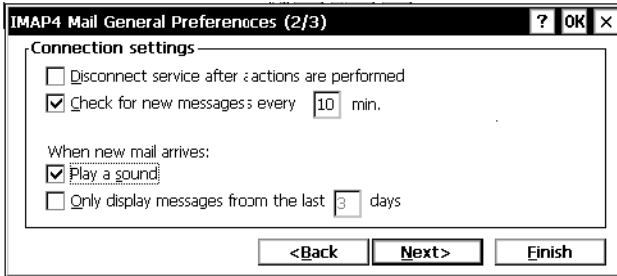

Figure 4-9. General Preferences Dialog Box
- Click **Next**. The **IMAP4 Mail General Preferences** dialog box displays (Figure 4-9 on page 4-8). Do the following: